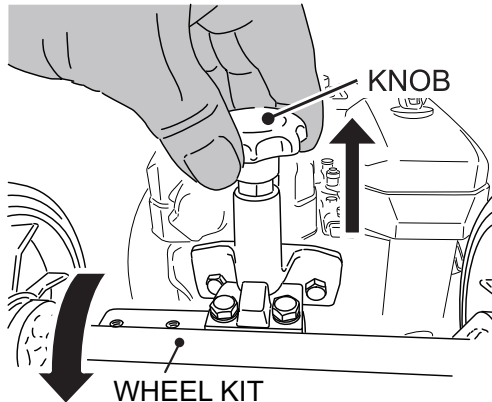

Figure 7. Wheel Kit Stopper Knob
1. Pull up the knob of wheel kit stopper, then push down the wheel kit until it touches the ground (Figure 7).